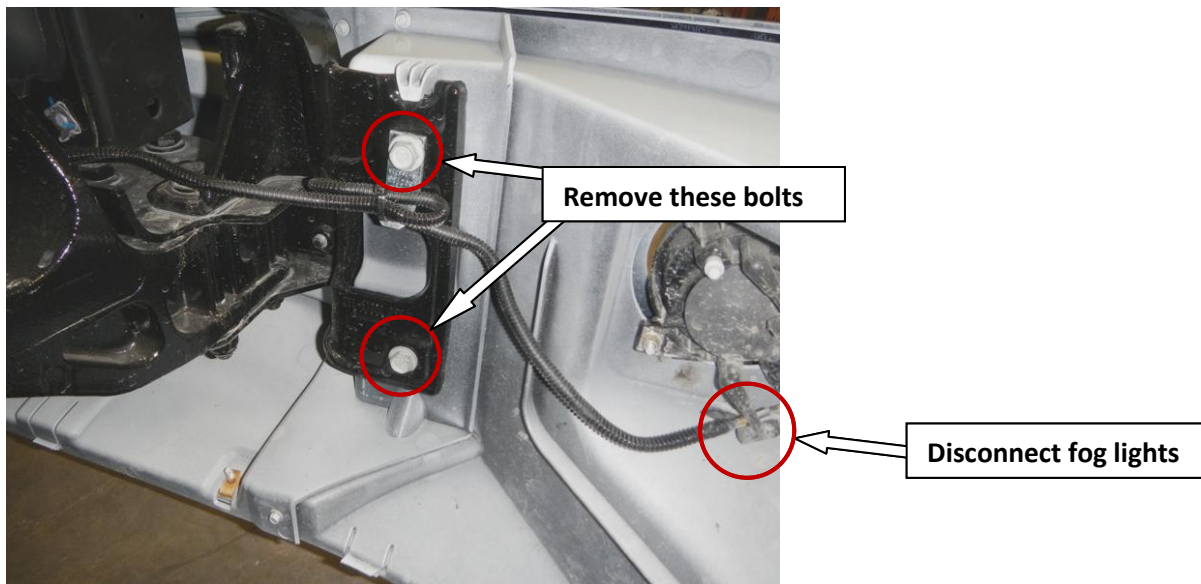

Figure 1 – Passenger side shown
1. Remove factory bumper (Figure 1)